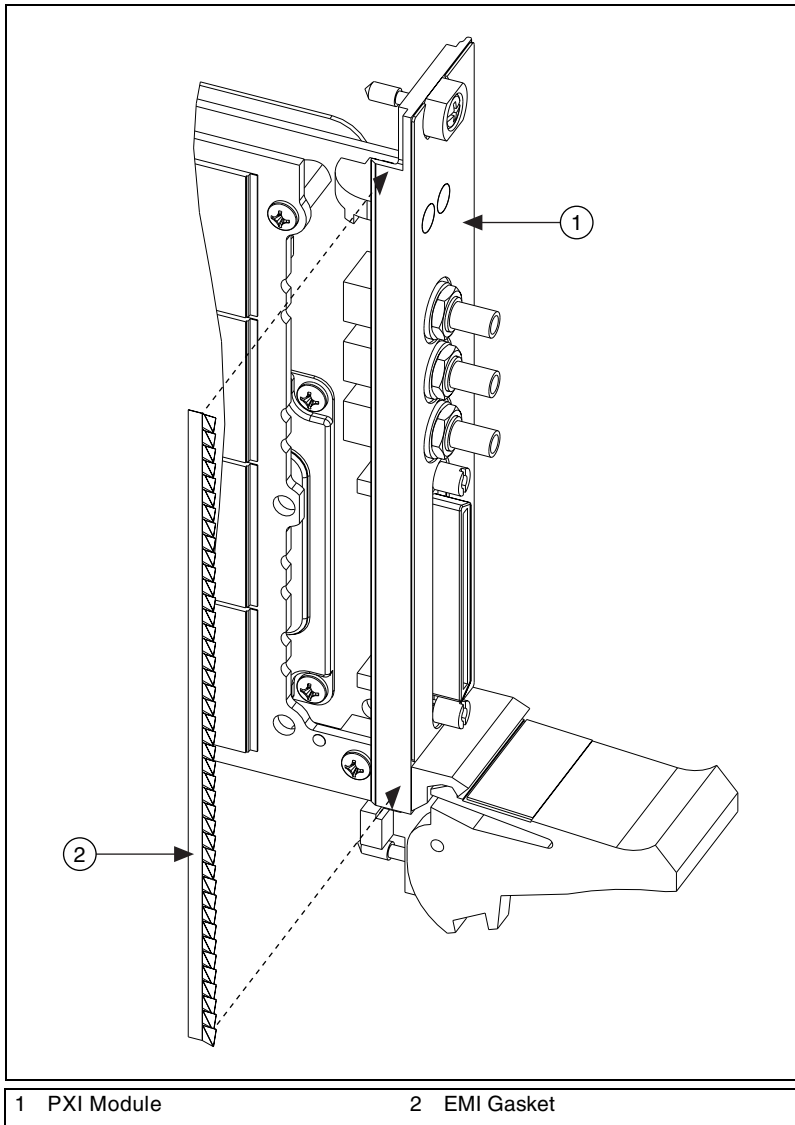

Figure 1. Gasket Placement on a PXI Module
This document describes the procedure for adding an EMI gasket to your PXI module. Refer to Figure 1 as you install the gasket.
4. Apply the gasket, positioning the long, straight edge toward the back of the module, as shown in Figure 1. The gasket *must* be flush with the side of the module.